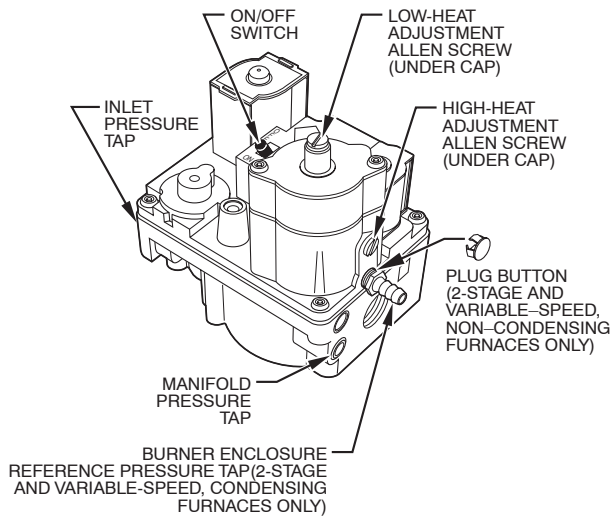

Fig. 25 – Two-Stage Gas Valve, Series E
NOTE: For furnaces with Fig. 25-type valves, the regulator springs do not need to be replaced, but pre-adjustment must be made for natural gas operation.
For furnaces with Fig. 25-type gas valves:
2. Remove the caps that conceal the regulator adjustment screws for low-heat and high-heat stage gas valve regulators. (See Fig. 25.)